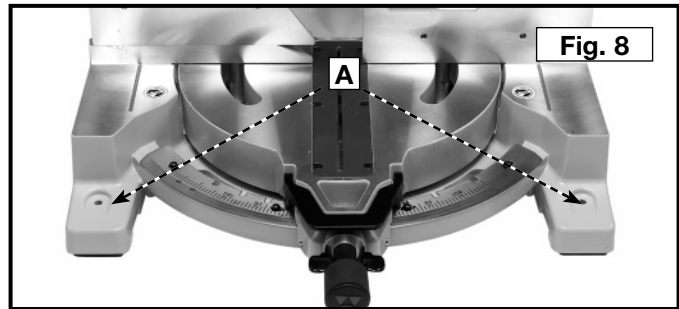

Fig. 8
Before operating your compound miter saw, firmly mount it to a workbench or other supporting surface. Four holes (two of which are shown at (A) Fig. 8) are provided for fastening the saw to a supporting surface.